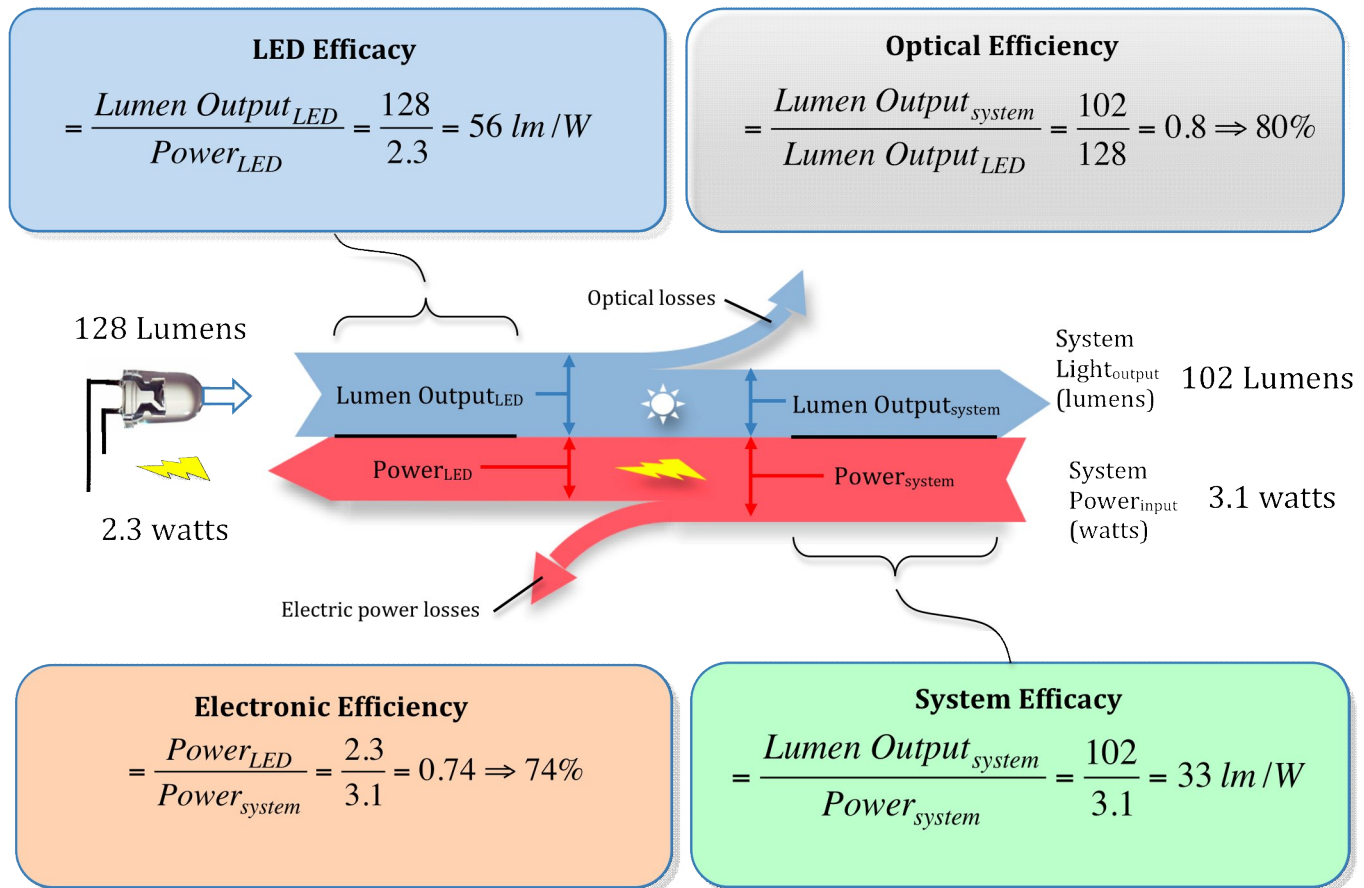

Figure 6: Theoretical LED lighting system with a 100-lumen output requirement.
Example #1 (see also Figure 6 below)
3.1 W is the total system power drawn from the battery. An energy flow diagram for this scenario is shown in Figure 6 below.